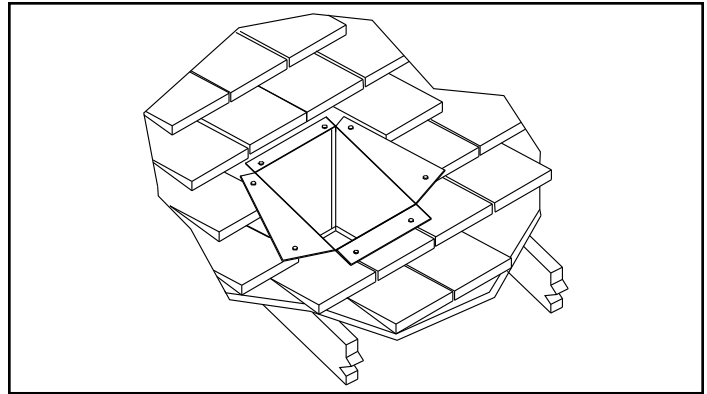

**Figure 3.39**
**Step 4** - Lower the support box through the hole in the roof until each side of the bottom of the support box protrudes at least 2" (51 mm) below the ceiling, Figure 3.39. Align the support box both vertically and horizontally with a level. Temporarily tack the support box in place through the inside walls and into the roof sheathing.